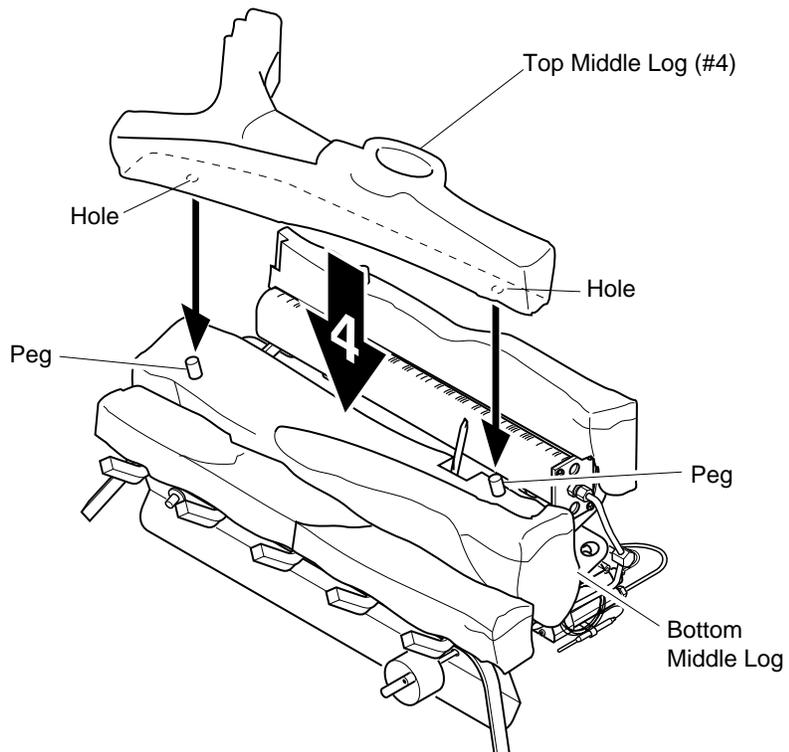

Figure 20 - Installing Top Log (#4)
- Place the top middle log (#4) on the bottom middle log (#2). Make sure the pegs of the bottom middle log fit securely in the holes of the top middle log (see Figure 20).